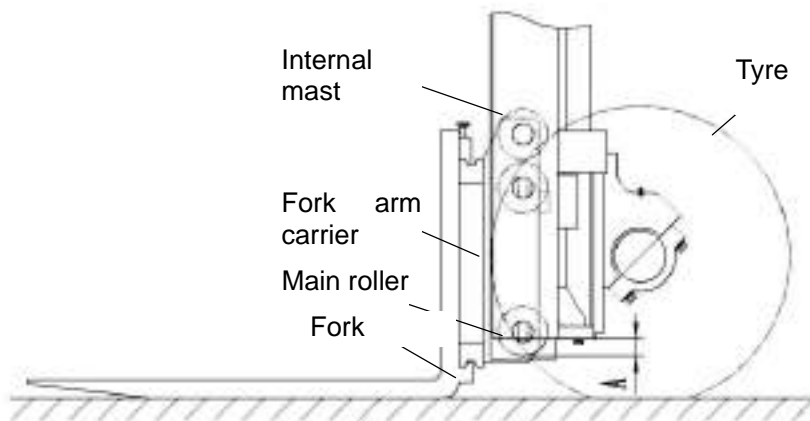

Fig. 2-70
6.5.2 Height Adjustment of Fork Arm Carrier (Fig. 2-70)